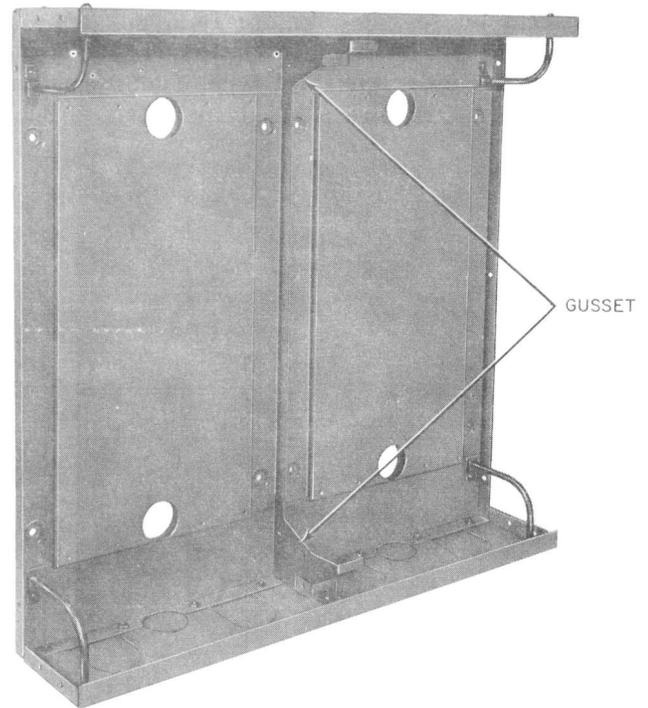

Fig. 14—Installed Gussets
3.08 Figure 14 shows completed installation of gussets.